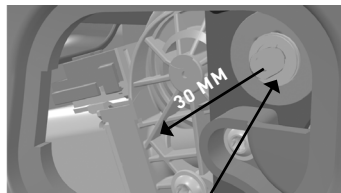

Fig. 10
- Pull out the 30 mm shaft (Fig. 10).